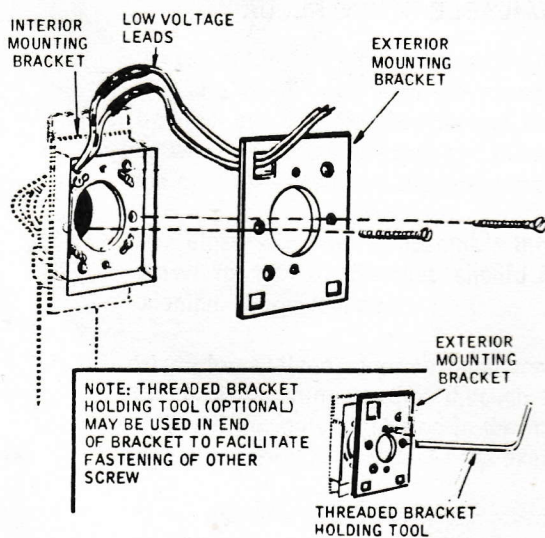

FIGURE 6
8. Place low voltage wires through rectangular opening in exterior mounting bracket. Insert the long machine screws through the large holes on each side of the large opening and thread into matching holes in the interior mounting bracket. Tighten screw until the wall is gripped securely between the brackets. (See Figure 6)